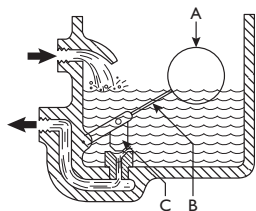

Fig. 44-1 Float trap.
A *float trap* is one of the earliest types of steam trap. It consists of a metal vessel or container, which contains a ball that floats on the condensate and controls the valve. Fig. 44-1 shows the key elements of this trap. In this trap the float (A)